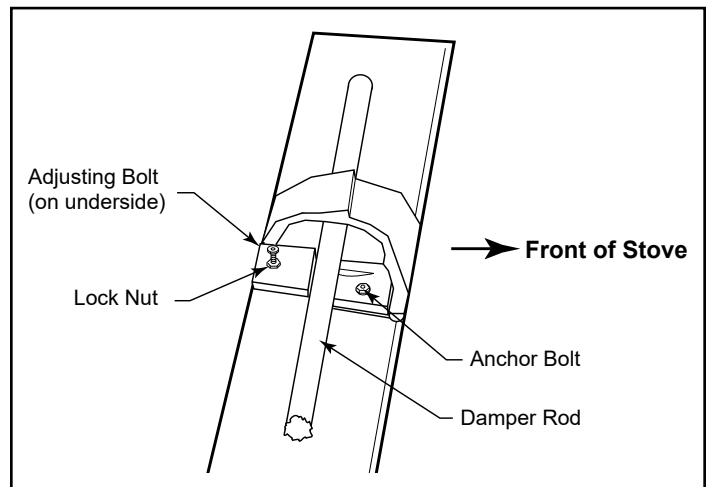

Figure 33 - Damper adjustment.
1. From inside the stove, first loosen and then remove the two (2) nuts on the threaded rods that secure the top plate to the inner top of the stove.
3. Loosen the adjusting bolt's lock nut. (Figure 33)